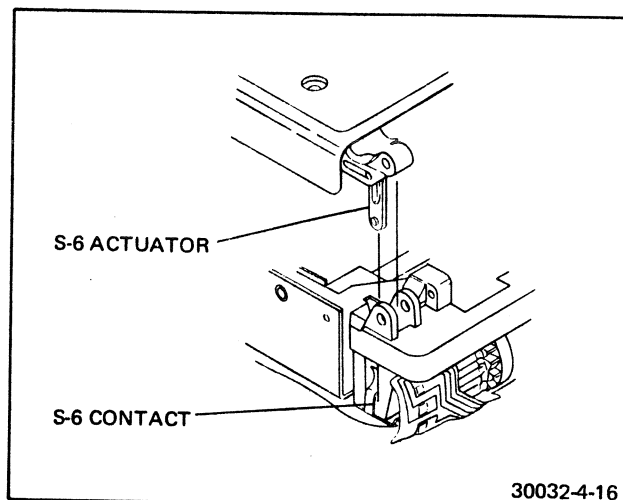

FIGURE 4-16 LOCATION OF S6 ACTUATOR LINK
5. Lower the housing so that the free-hanging actuator passes through the cutout in the inner frame assembly toward the S6 contact. (See Figure 4-16.)